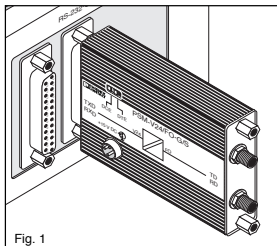

Fig. 1
- Plug the module directly onto the V.24 interface (see Fig. 1) or